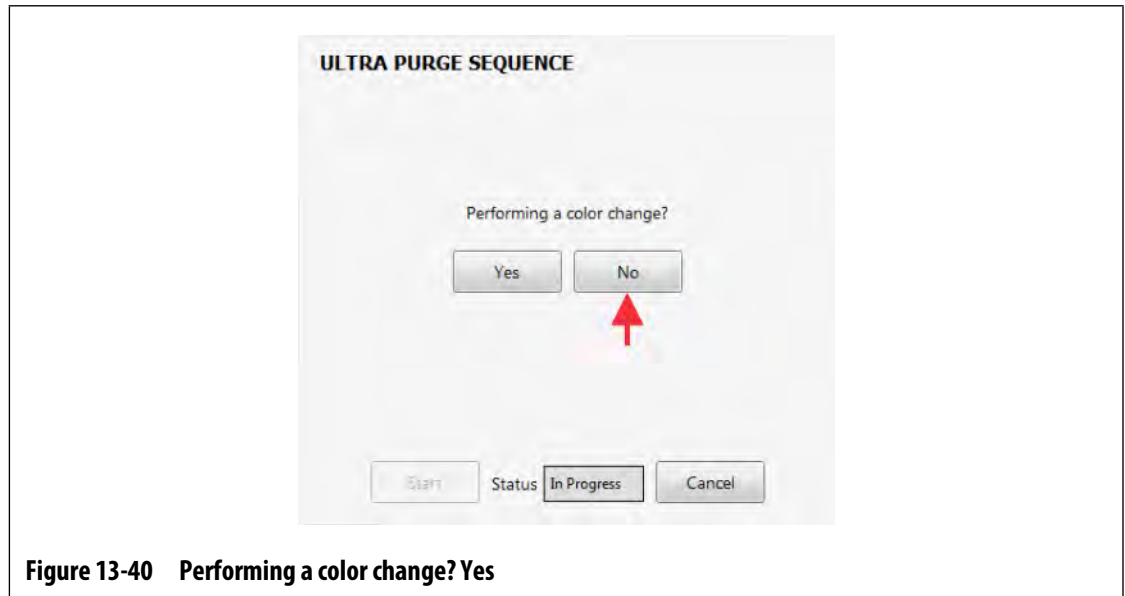

Figure 13-40 Performing a color change? Yes
- 6. When asked if you are performing a color change, touch the **No** button (refer to Figure 13-40).